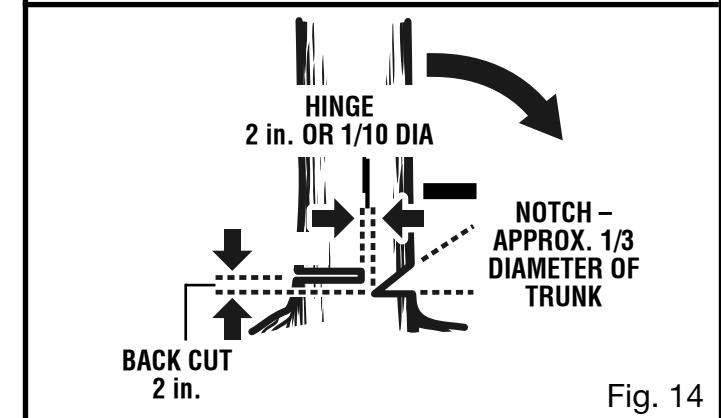

Fig. 14
line. To keep the weight of the wood off the saw, always make the lower cut of the notch before the upper cut. *See Figure 14.*
■ **Felling Backcut.** The backcut is always made level and horizontal, and at a minimum of 2 in. above the horizontal cut of the notch. *See Figures 14 - 15.*
■ Never cut through to the notch. Always leave a band of wood between the notch and backcut (approximately 2 in. or 1/10 the diameter of the tree). This is called "hinge" or "hingewood." It controls the fall of the tree and prevents slipping or twisting or shoot-back of the tree off the stump. *See Figures 14 - 15.*